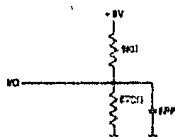

Figure 2 - Transition Load
- Transition is measured $\pm 200\text{mV}$ from steady state voltage with specified loading in Figure 2.